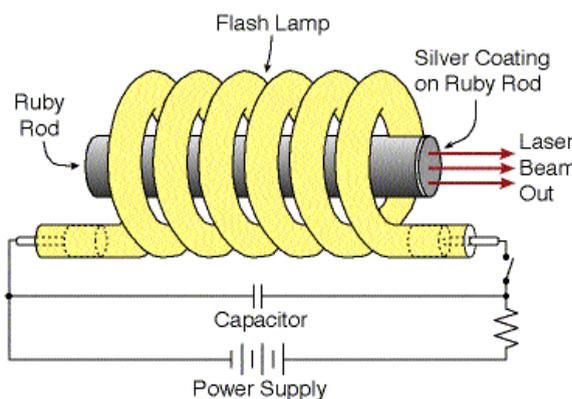

Figure 5.12: Schematic Description of the First Ruby Laser
**Small Ruby rods** are with diameter of about 6 [mm], and length of about 7 [cm]. **The biggest rods** can be up to 20 [mm] in diameter, and 20 [cm] in length. In figure 5.12 a schematic description of the first Ruby laser developed by Theodore Maiman.